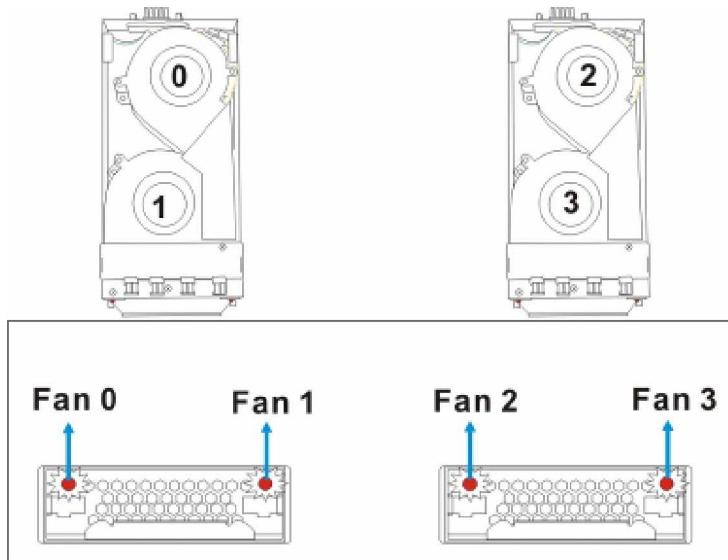

Figure 3-8: Cooling Module LEDs and Cooling Fan Locations
Each cooling module has two (2) red LEDs on the back. Each LED corresponds to a single fan in the cooling module. (See *Figure 3-8*) When